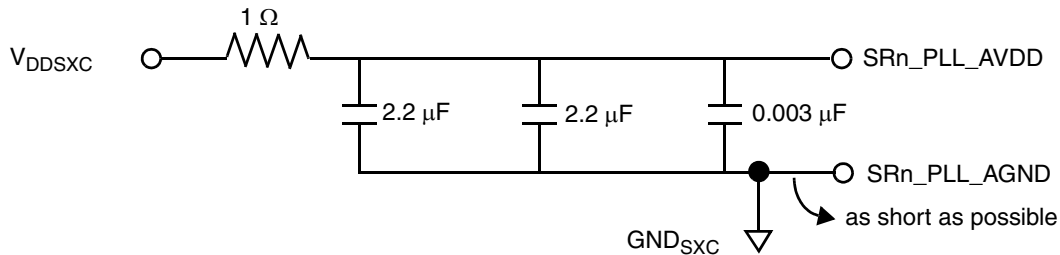

Figure 38. SerDes PLL Supplies
- Couple inputs SR1_PLL_AVDD and SR2_PLL_AVDD with SXCVDD1 and SXCVDD2 power rails, respectively, using an RC filter (see Figure 38).
Each SerDes PLL power supply must be filtered using a circuit similar to the one shown in Figure 38, to ensure stability of the internal clock. For maximum effectiveness, the filter circuit should be placed as closely as possible to the SRn_PLL_AVDD ball to ensure it filters out as much noise as possible. The ground connection should be near the SRn_PLL_AVDD ball. The $0.003\ \mu\text{F}$ capacitor is closest to the ball, followed by the two $2.2\ \mu\text{F}$ capacitors, and finally the $1\ \Omega$ resistor to the board supply plane. The